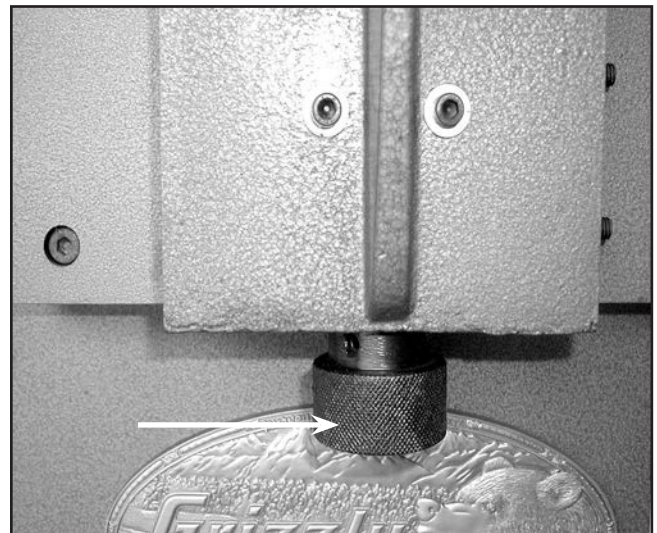

Figure 16. Knurled table height adjustment knob.
2. Use the knurled knob to move the table on its dovetailed ways. See **Figure 16**.